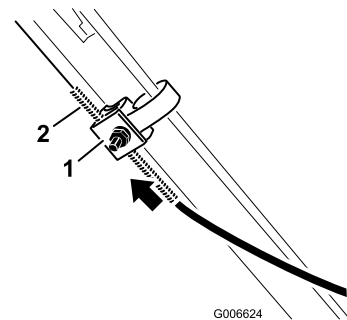

Figure 28
4. Push the cable jacket upward 3/16 inch (5 mm) (Figure 28).